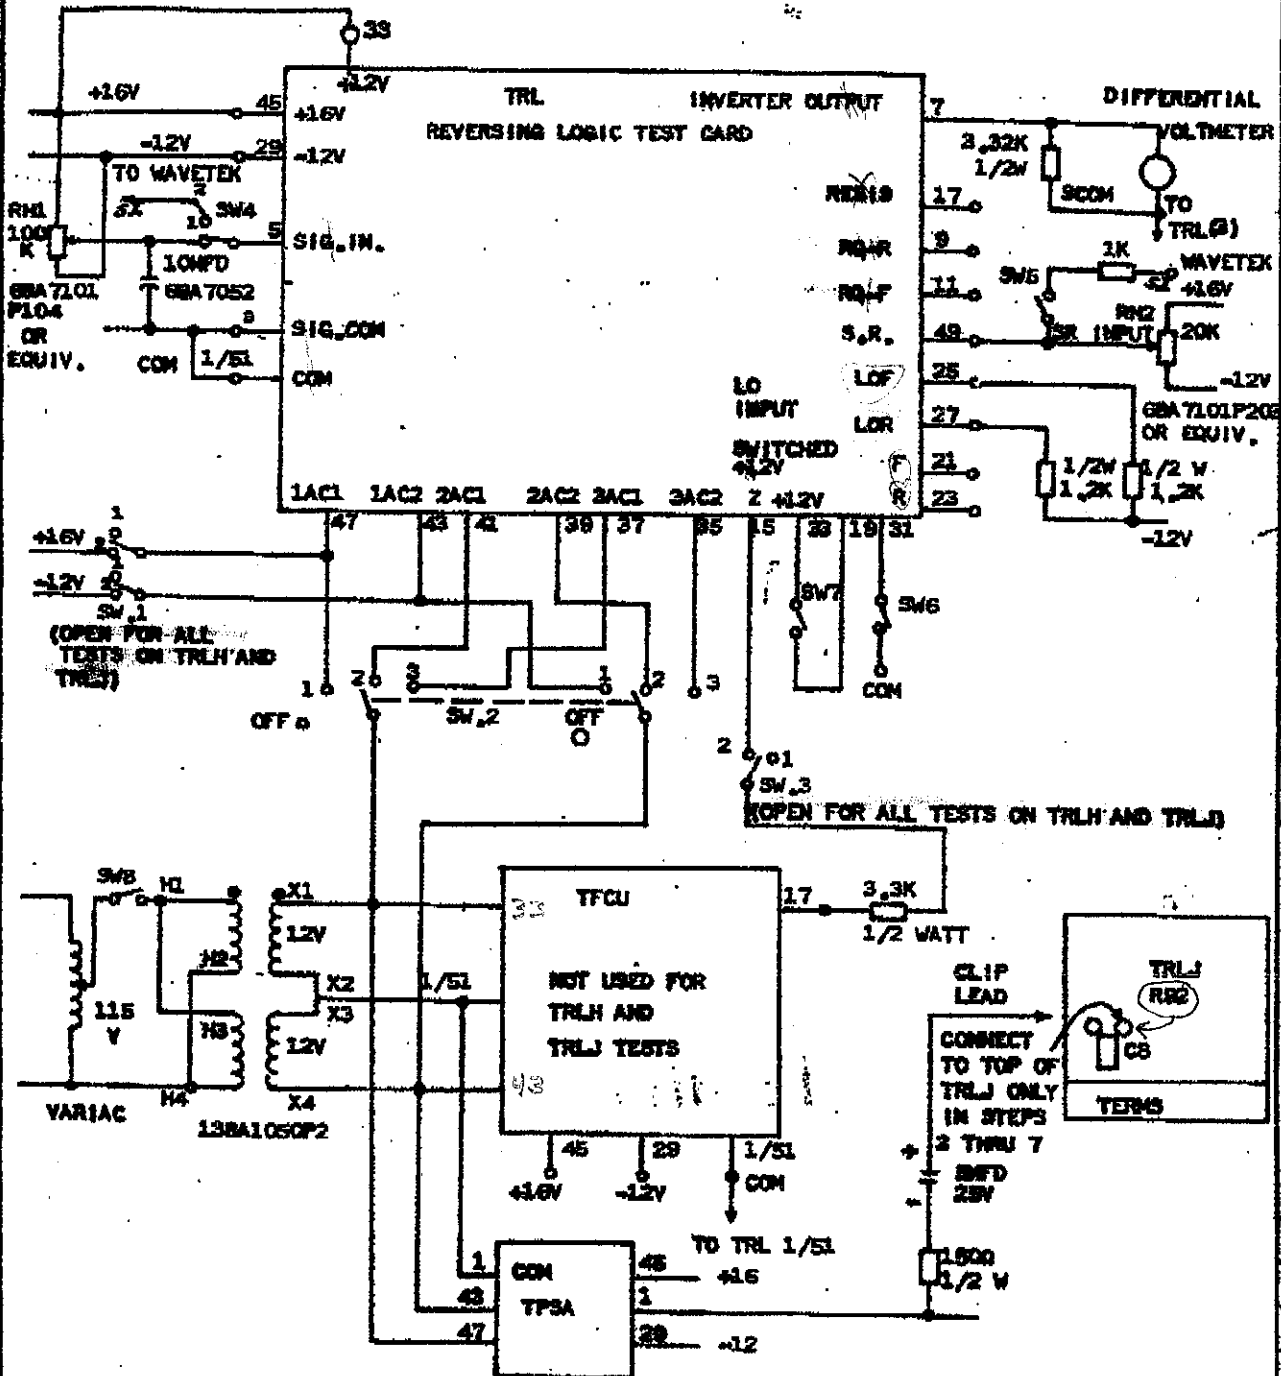

FIG. 1
8. MISC. PARTS PER FIG. 1
C) CONNECT 5 MFD TO R92 ON TRLJ (SEE FIG. 1)